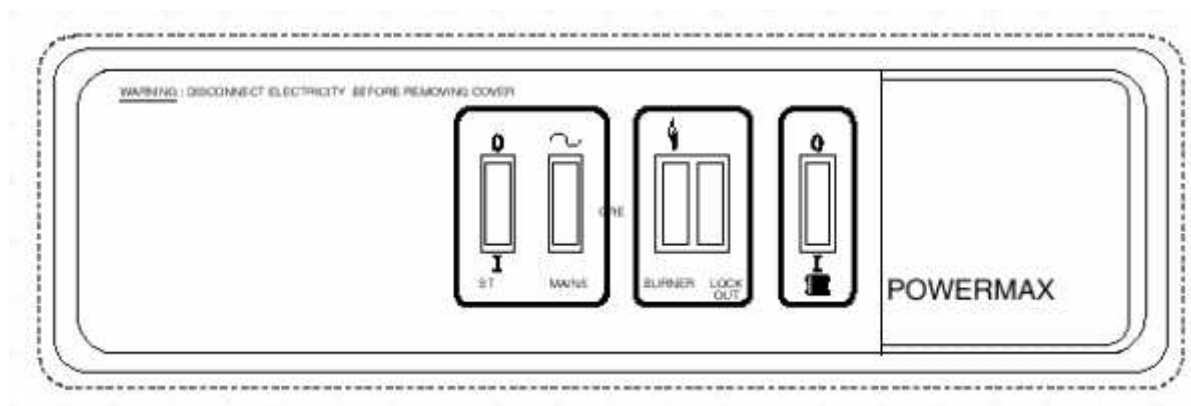
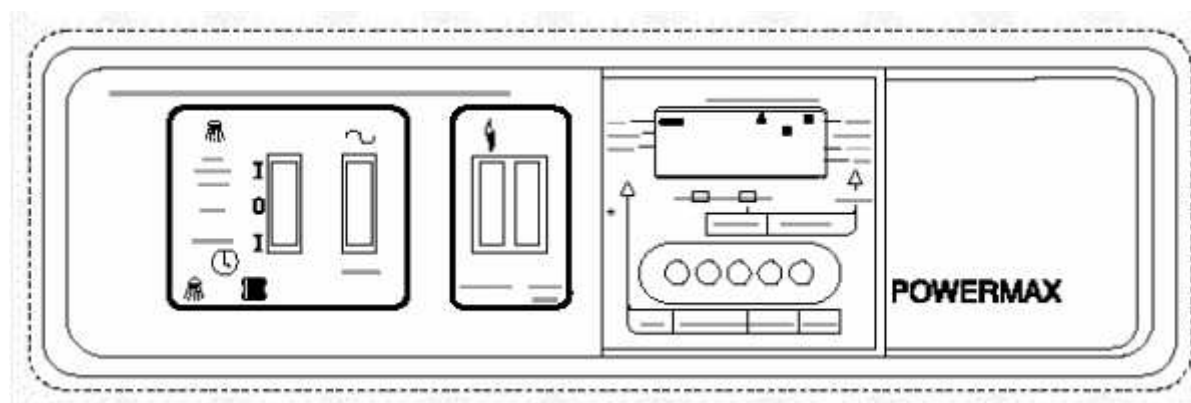

Fig. 12.4 Standard Switch Panel
Fig. 12.5 Programmer Switch Panel
**Note:** Switch panel layouts are shown in Fig.12.4 for standard model and Fig.12.5 for model with built-in programmer.
- a. On programmer model, set the 3-way-switch to TIMED and commission the programmer by moving the slider switch (accessible behind the switch panel) to the right. Press SELECT HW and SELECT CH buttons (repeat if necessary) until the indicators align with either ALL DAY or 24HR, Fig 12.5, and press SET button to align left hand indicator with RUN. On standard model move central heating switch to the 'I' (on) position, Fig 12.4.